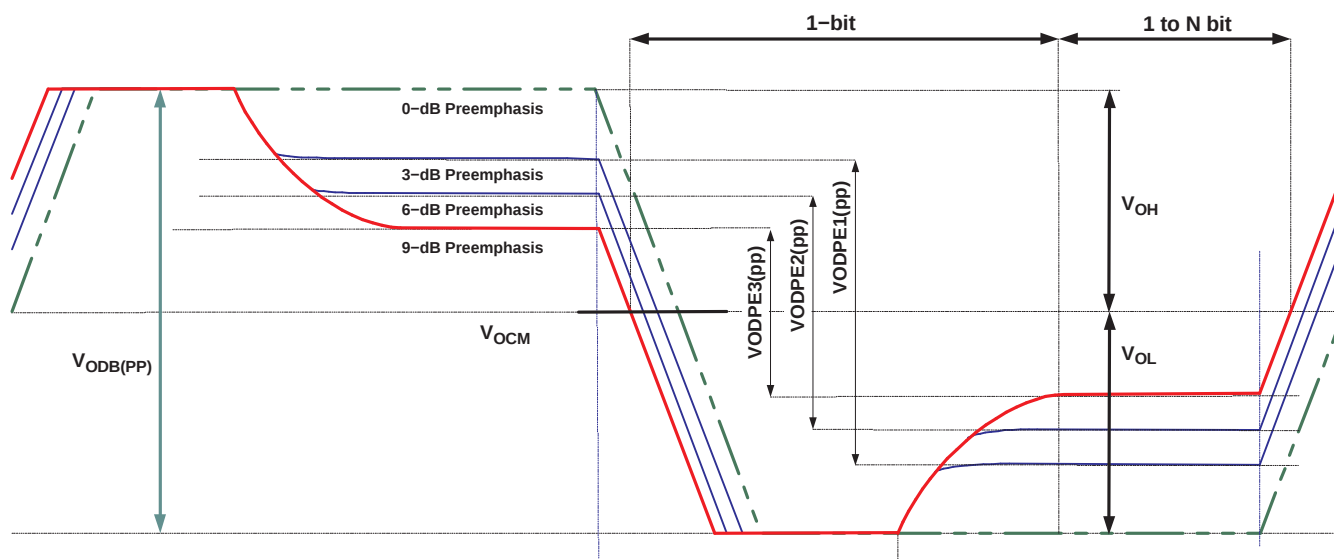

Figure 3. Preemphasis and Output Voltage Waveforms and Definitions
| V ODH     | High-level output voltage                                              | R L = 100 Ω ±1%,P x2 = P x1 = 0;2.5-Gbps alternating 1010-pattern;<a href="#">Figure 3</a> |      | 650                |      | mV PP |
| V (PE) Output preemphasis voltage ratio,$\frac{V_{\text{ODB(PP)}}}{V_{\text{ODPE(PP)}}}$ | R L = 100 Ω ±1%;x = Channel 1 or 2;See <a href="#">Figure 3</a>                                                                              | Px2:Px1 = 00 | 0                  |     | dB   |